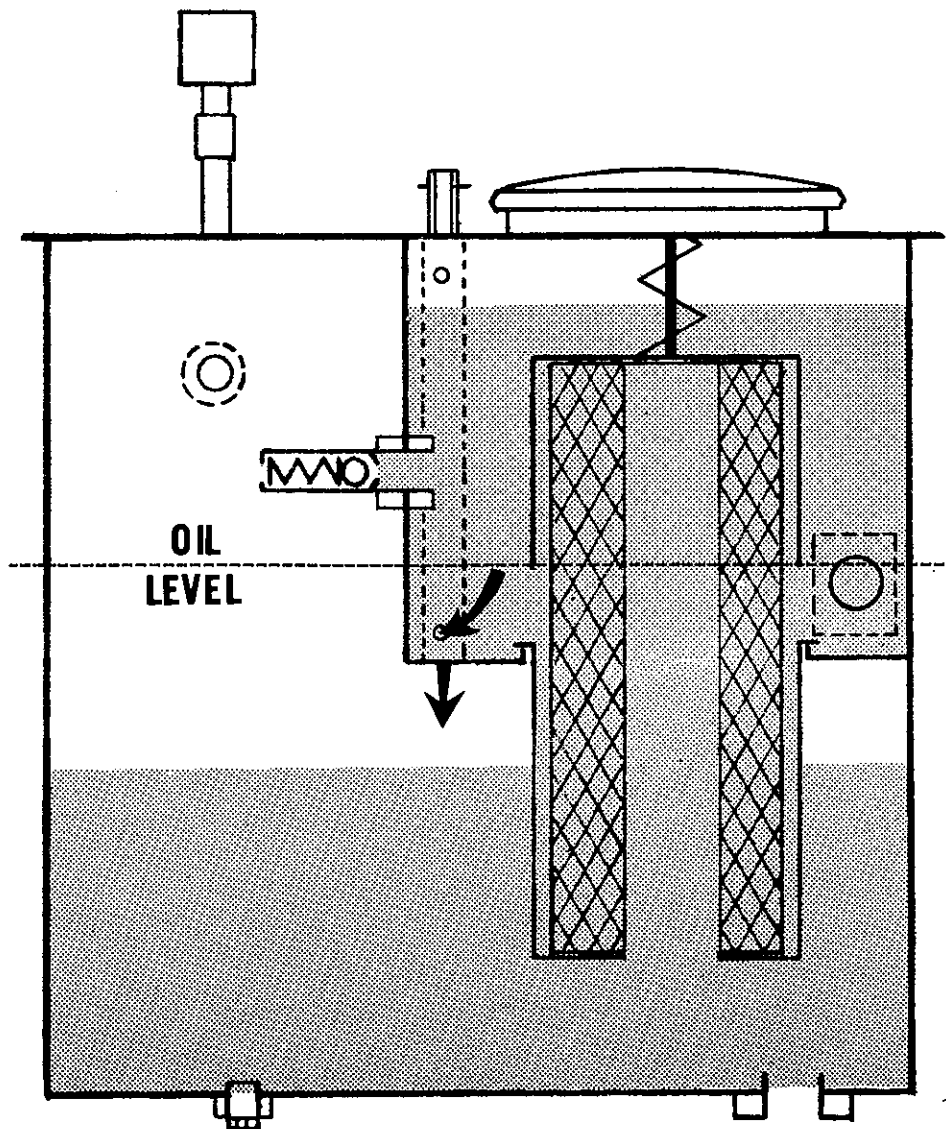

Fig. 3
Removing the dipstick for 15 seconds when the engine is shut down, allows sufficient time to equalize the level of fluid in both compartments of the tank. The dipstick is located in a standpipe in the upper compartment. (See Figure 3). At the bottom of this standpipe is a port to allow oil from the upper compartment (B) to drain into the lower compartment (D).